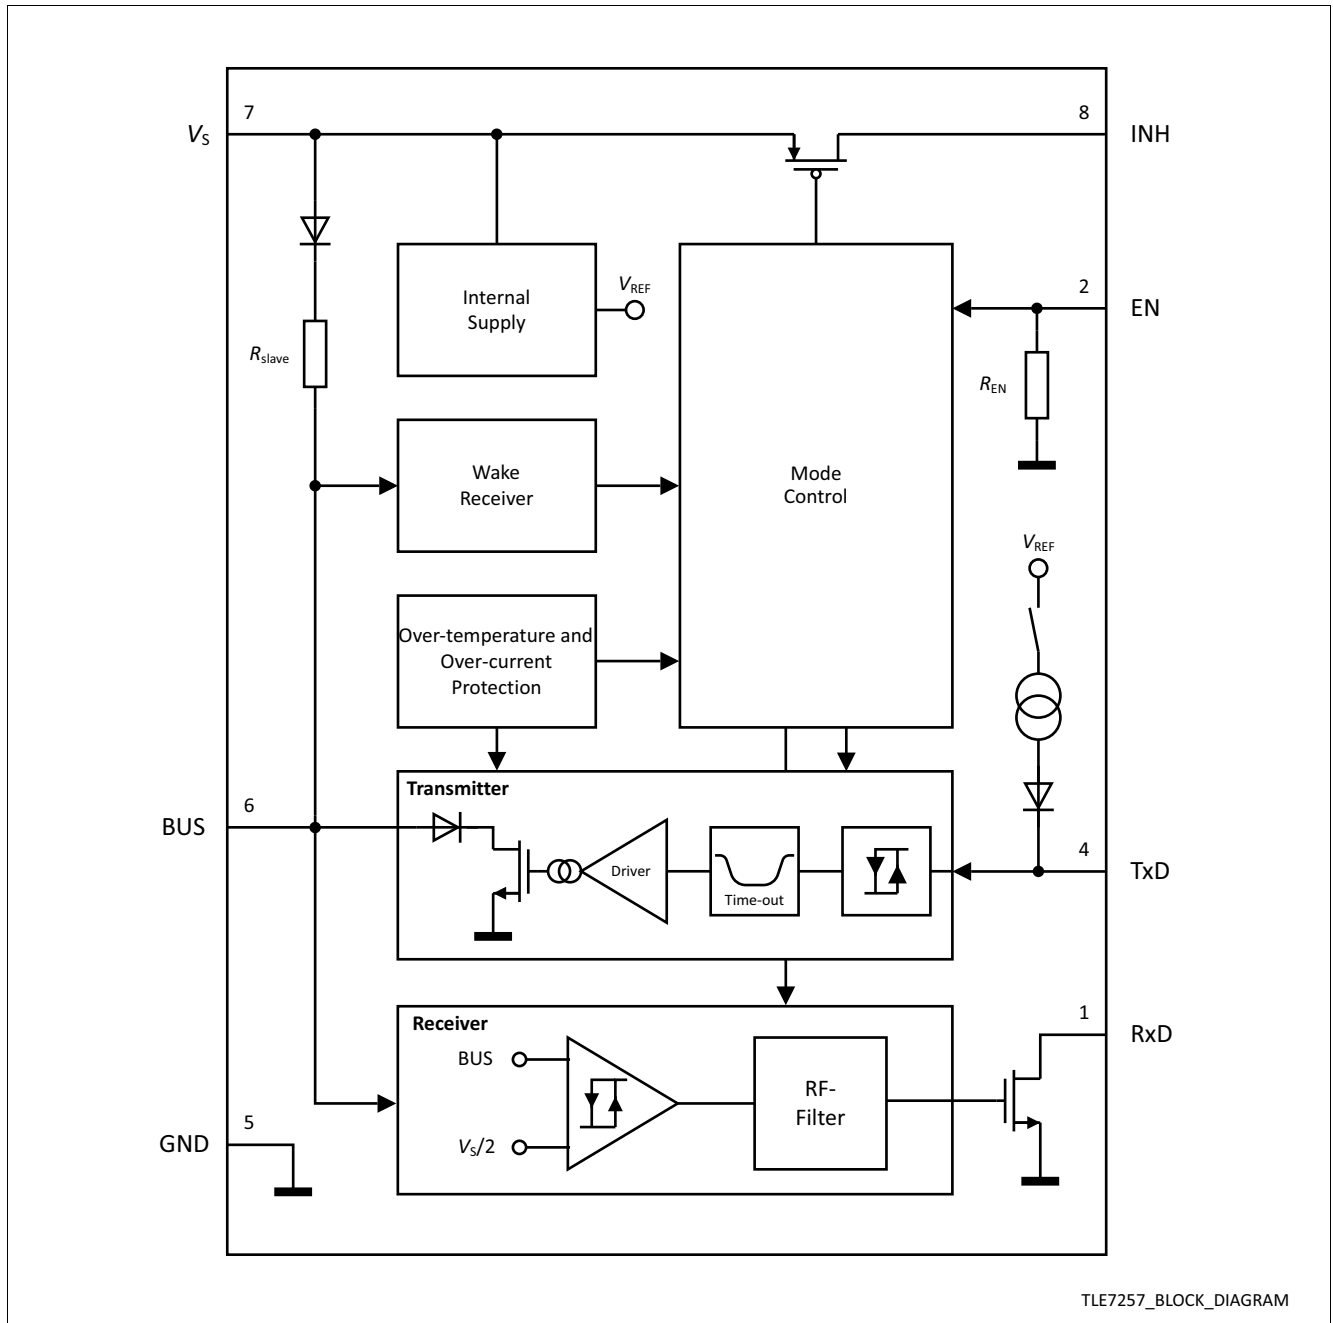

Figure 1 Block diagram
- 1) The TxD input is disabled in Sleep mode and the internal pull-up current source is switched off (see **Figure 1**).
- The BUS pin is terminated to V_S via the internal termination resistor R_{BUS} (see Figure 1).
- The BUS output is terminated to V_S via the internal termination resistor R_{BUS} (see Figure 1).